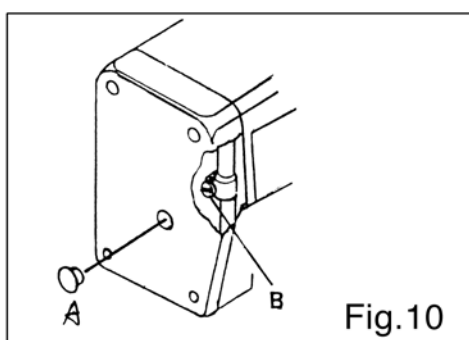

Fig.10
2. If you would like to adjust the height of Needle Bar, please remove the rubber plug of front cover and loose the screw (B) on Needle Bar Rod (A). Adjust the Needle Bar up or down to require height and fix the screw. (Fig.10)